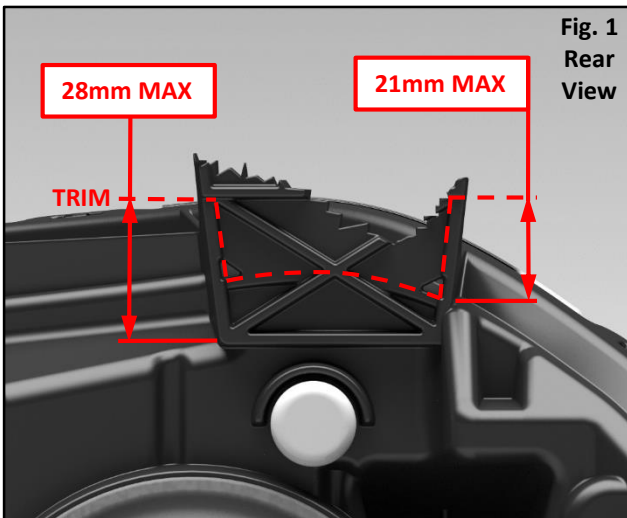
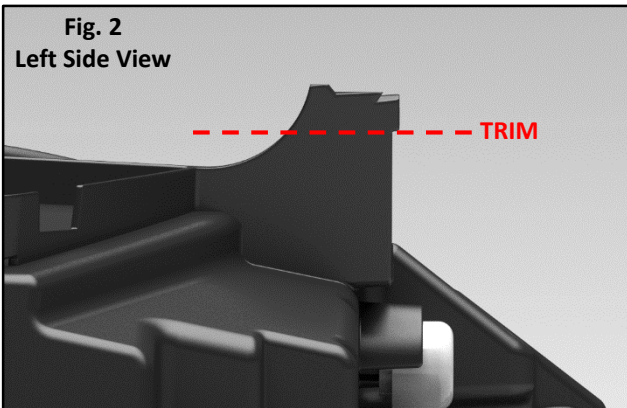

Fig. 1
Fig. 2
1. Trim: Using a cut-off wheel, trim the damaged tab to the **MAX** dimension whenever possible, **Fig. 1**. Make note of the trimming plane to which the **MAX** dimension refers, **Fig. 2**. The **MIN**(if present) indicates the least amount of material allowed for proper screw engagement. Next, Sand rough edges to remove excess material from trimming and to ensure a proper fit.